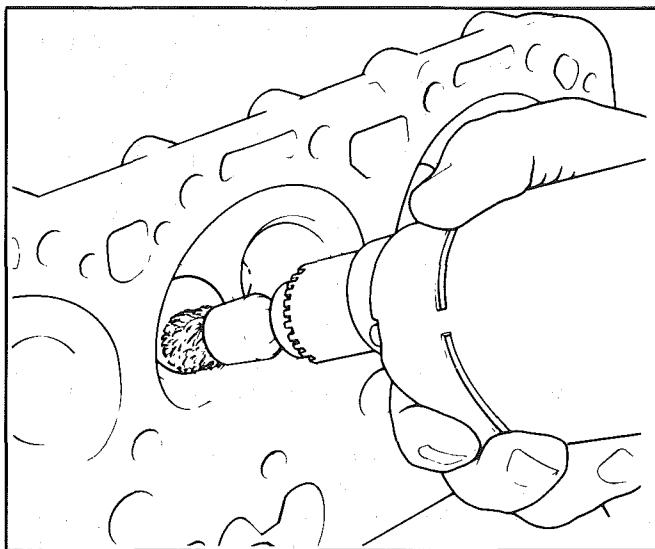

Fig. 6A3-17 Cleaning Combustion Chambers-Typical
1. Clean all carbon from combustion chambers and valve ports using Tool J-8089 (fig. 6A3-17).